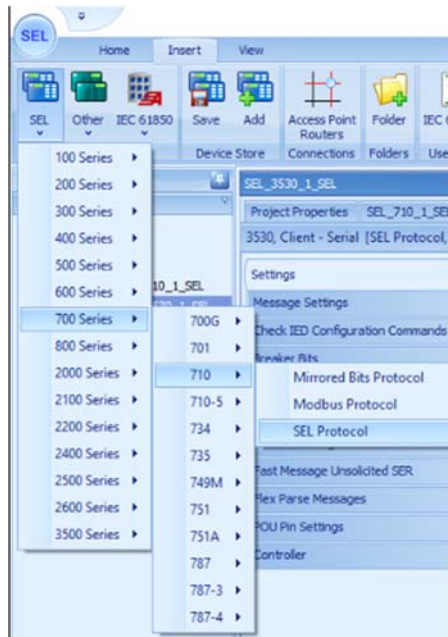
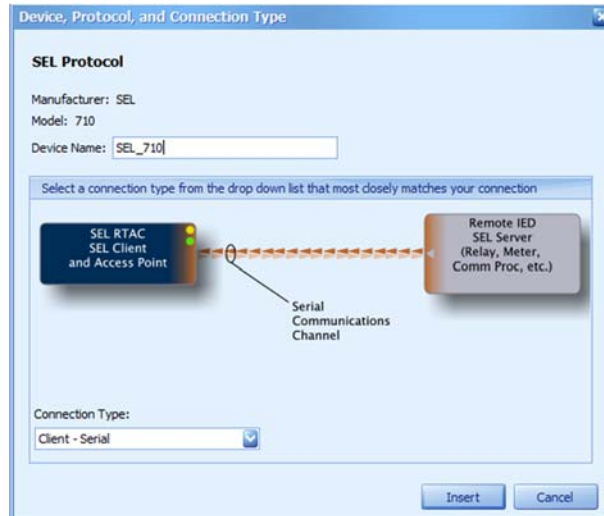

Figure 90: Add SEL-710 device
Figure 91: SEL-710 Connection Type
92. On the Insert tab, select the SEL device dropdown and add the SEL-710 as a serial client using SEL Protocol (Figure 90 and Figure 91).